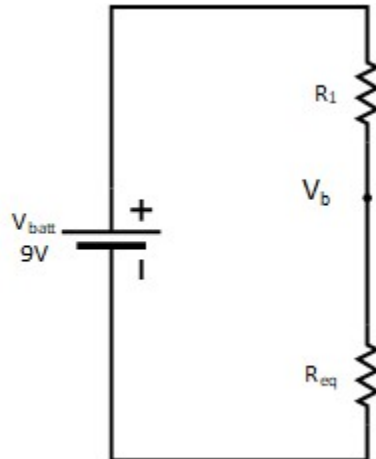

Figure 2 – Equivalent Resistor Network
The circuit in Figure 2 is now a simple series resistor network or a voltage divider circuit. Recall that for a series resistor network, the voltage across each resistor is proportional to the ratio of the value of that resistor to the total resistance. In the case of Figure 2:
the equivalent resistance of the network can never be larger than the smallest resistor in the network. Therefore, by setting $R_2 = R_1$, we ensure that no matter how large the value of R_t is, the value of R_{eq} is never larger than R_1 , and consequently, $\frac{R_{eq}}{R_1 + R_{eq}}$ for the series circuit in Figure 2 will never be larger than $\frac{1}{2}$.
- A. Design requirement (a) states that $V_b = 3V$ for LED to turn on. Referring to Figure 2 and Eq. 1: